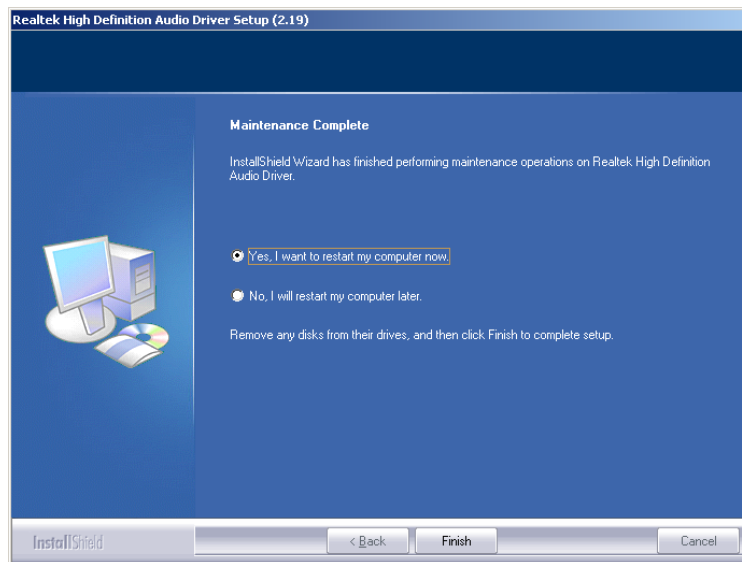

Figure 7-20: Restart the Computer
Step 10: After the driver installation process is complete, a confirmation screen appears (Figure 7-20).